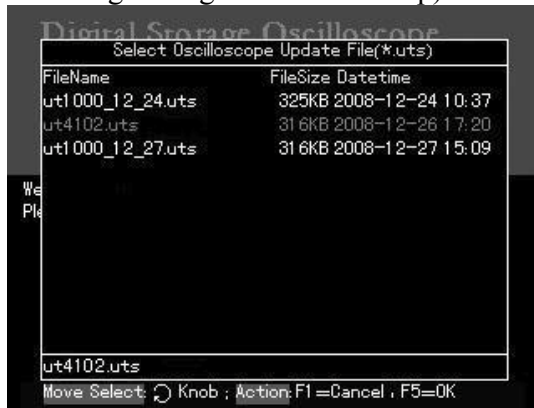

Figure 5-2 Selection of the USB upgrade document
- When [F5] is pressed as shown in Figure 5-2, the following prompt will appear: Are you sure you wish to update? If yes, press [F5], otherwise press [F1] to cancel upgrade.
If the upgrade document on the USB device is incorrect, update will fail upon selecting the upgrade document by pressing [F5] (Figure 5-2). You will see the prompt : “Incorrect upgrade document”. Save a correct document on the USB device and repeat the previous steps for upgrade.